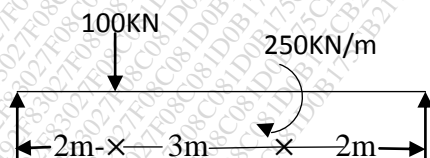

Fig.1
- Q.3 Find the maximum slope and deflection for the beam shown in fig.1. Use Macaulay's method. 15